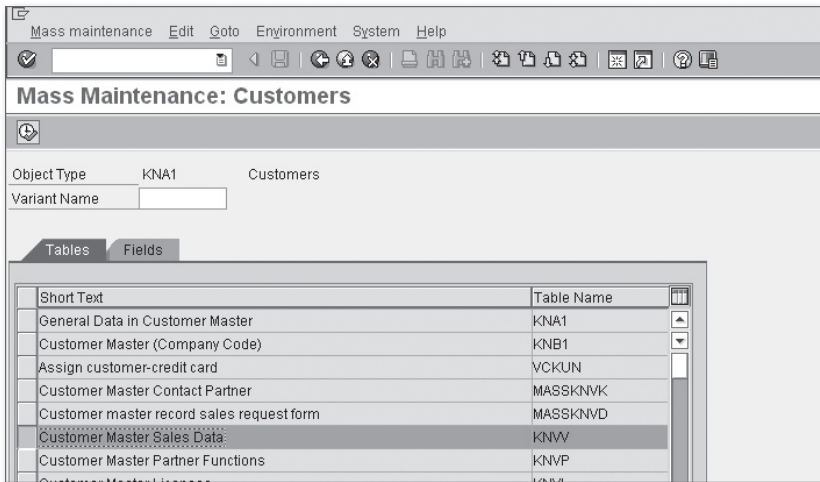
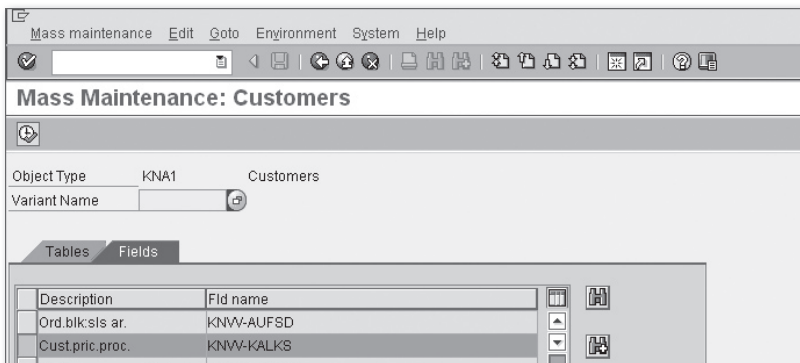

Figure 2.8 Mass Maintenance — Customers
Figure 2.9 Mass Maintenance for Field KNVV-KALKS
With Transaction MASS, you can make changes to several fields in several tables simultaneously. By selecting object type KNA1 and executing the transaction, you reach the screen shown in Figure 2.8 (which is the same screen that appears when you execute Transaction XD99; menu path: SAP MENU • LOGISTICS • SALES AND DISTRIBUTION • MASTER DATA • BUSINESS PARTNERS • CUSTOMER MASTER MASS MAINTENANCE). The Tables tab shows a list of tables that can be modified. The Fields tab lists both the name of the table and the fields.
1. Select the specific table and field to be modified. For example, if the customers belonging to a particular region (KNA1-REGIO) have a new customer pricing procedure (KNVV-KALKS), you would select Table KNVV in the Tables tab (Figure 2.8) or KNVV-KALKS in the Fields tab (Figure 2.9).